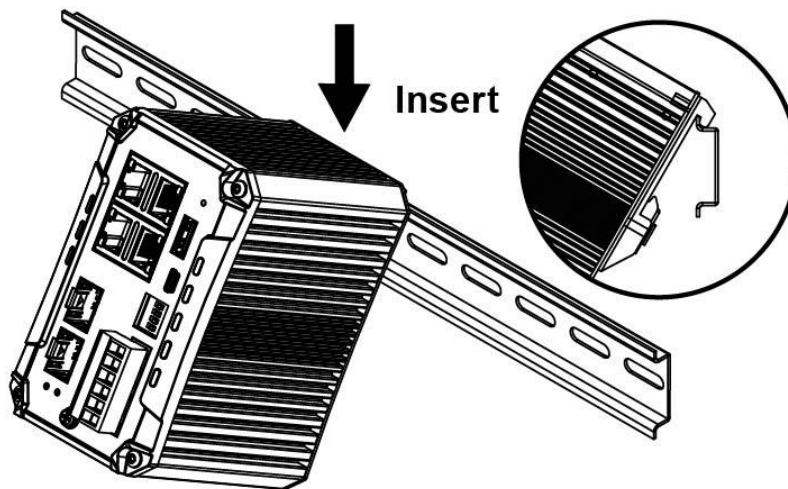

Figure 3.2: Insert the Switch on the DIN-Rail
Step 3. After the DIN-Rail bracket is installed on the rear side of the Switch, insert the top of the DIN-Rail on to the track as shown below in Figure 3.2.